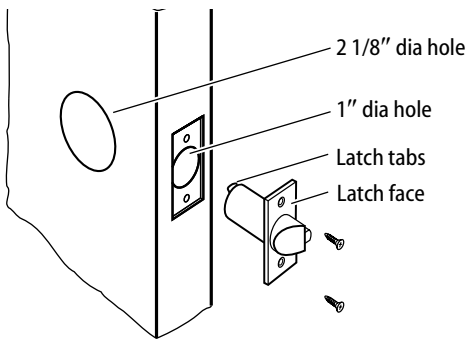

Figure 3 Boring holes and installing the latch
- 1 Bore a 2 1/8" diameter hole from both sides of the door to the center of the door. (See Figure 3.)